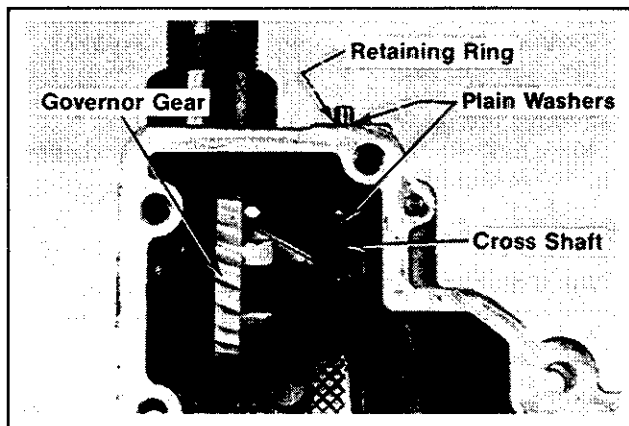

Figure 9-43. Removing Governor Gear.
- Remove the governor gear from stub shaft. Refer to Figure 9-43.